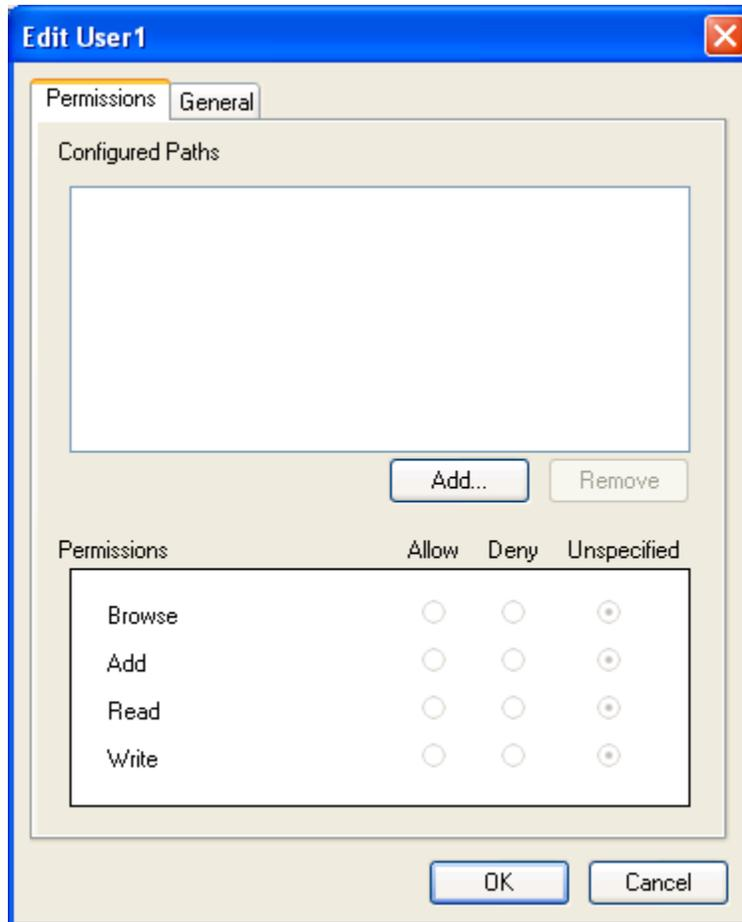

Figure 51 - Edit <Username> Window (Permissions Tab)
6. The **Edit <Username>** window (Figure 51) appears. Follow the instructions in the **Edit User** section for adding permissions.
2. The **Edit <Username>** window (Figure 51) appears.